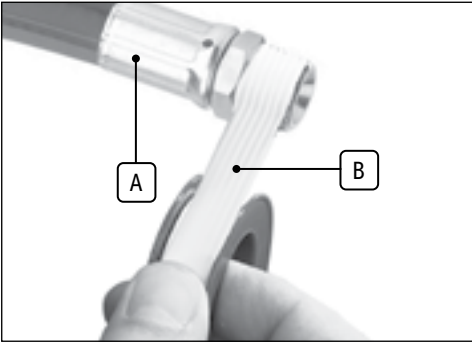

Fig. 2
6.2 Connection to the Air Supply (Figs.2 – 3)